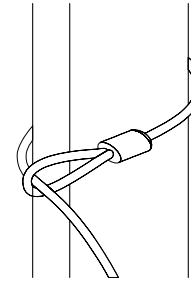

Figure 2
1. Wrap the **Security Cable** around a secure stationary object (i.e., a desk leg or table frame) and pull the **Laptop Lock** through the loop on the **Security Cable**. Figure 2.